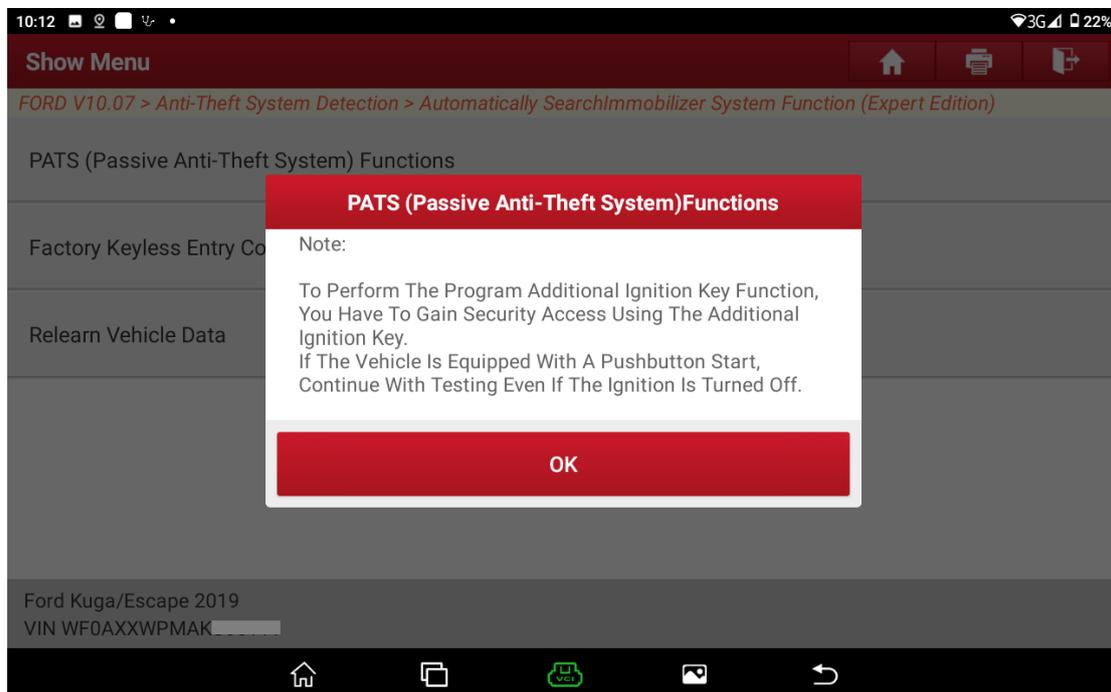

Figure 8
6. Prompt to turn on the ignition. If the vehicle is equipped with a pushbutton start, continue the test even if the ignition is turned off. See Figure 8.